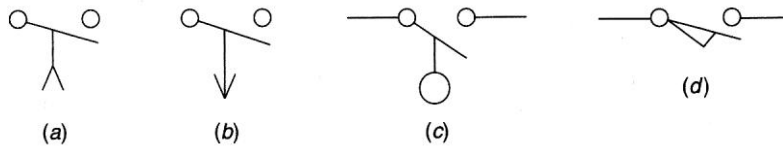

Figure 7-1 Symbols for question 2.
2. Which of the symbols shown in Figure 7-1 represents an on-delay timed relay contact? 2. _____